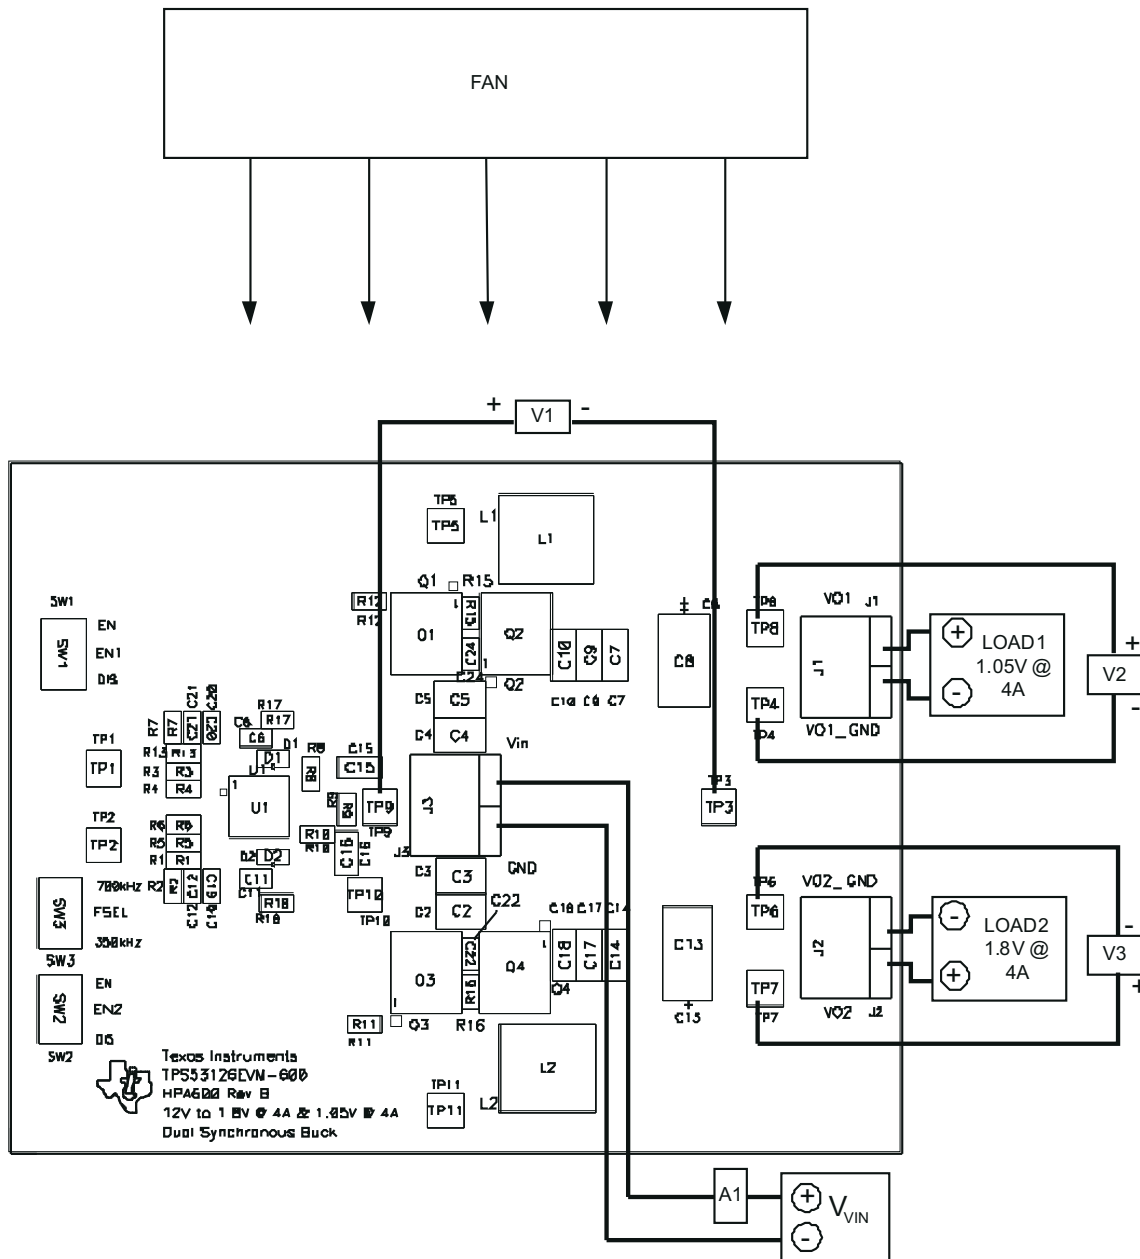

Figure 5-1. TPS53126EVM-600 Recommended Test Setup
Figure 5-1 shows the recommended test setup to evaluate the TPS53126EVM-600. Working at an ESD workstation, ensure that any wrist straps, bootstraps, or mats are connected referencing the user to earth ground before power is applied to the EVM. An electrostatic smock and safety glasses also are recommended.
4. Place a fan as shown in Figure 5-1 and turn on, making sure air is flowing across the EVM.